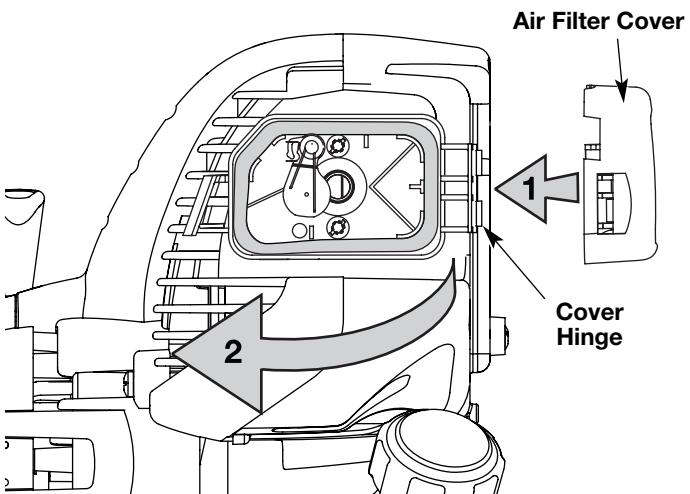

Fig. 33
7. Reinstall the air filter cover. Position the hooks on the right side of the air filter cover into the slots at the right side of the back plate (Fig. 33, no. 1).
8. Swing the cover to the left until the tab on the air filter cover snaps into place in the slot on the back plate (Fig. 33, no. 2).
12. Reinstall the muffler cover. Slip the rear tab on the muffler cover into the engine cover rear slot. Then slide the remaining slots into the tabs until they snap into place (Fig. 33).